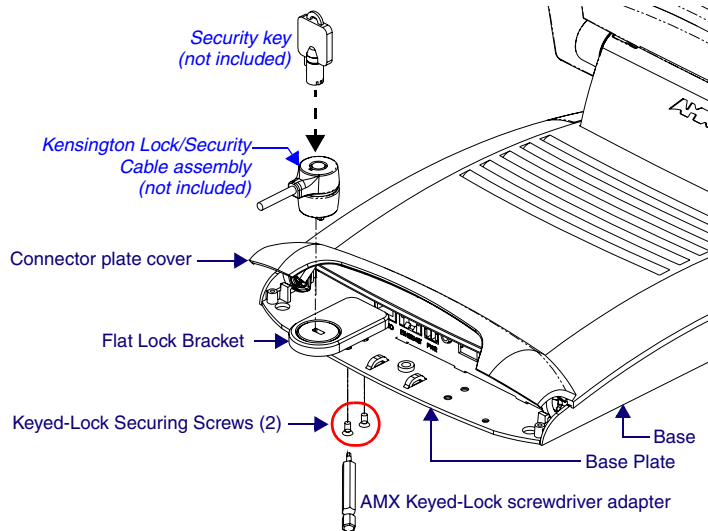

FIG. 7 Flat Lock Bracket - Components and Installation
2. Align the openings on the bottom of the Flat Lock Bracket to the securing locations on the *left* side of the touch panel connector plate (located under the connector plate cover, as indicated in FIG. 7).
3. Insert two Keyed-Lock Securing Screws into their respective locations (FIG. 7).
4. Use the AMX Keyed-Lock screwdriver adapter to tighten the screws and secure the Flat Lock Bracket to the base plate (FIG. 7).